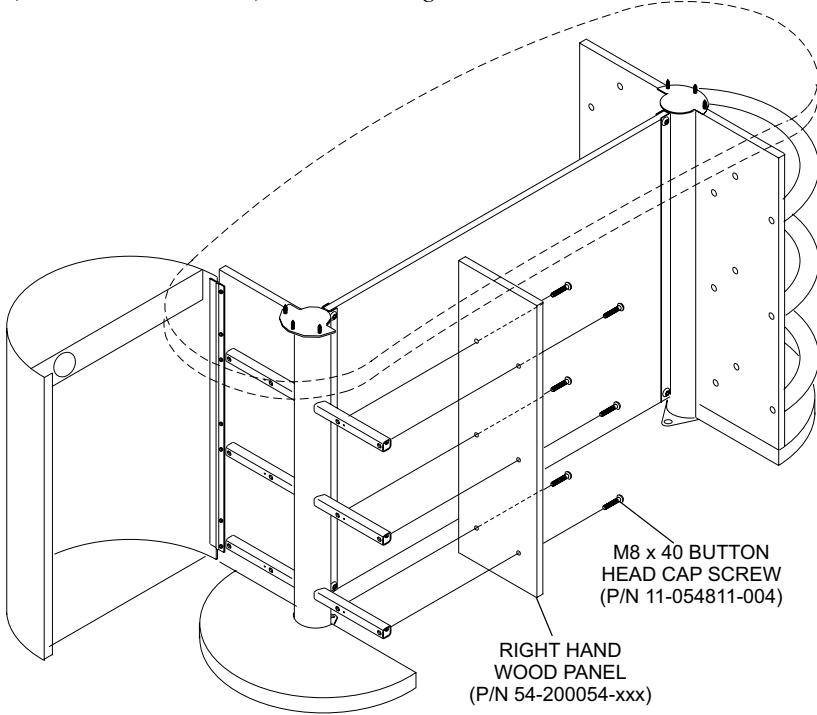

Figure 13
1. Secure new right hand wood panel (P/N 54-200054-xxx) to trash can support with six M8 x 40 button head screws (P/N 11-054811-004). Refer to *Figure 13*.